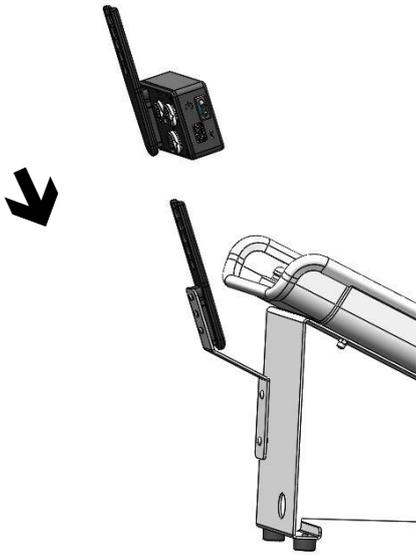

Figure 10
3. Remove the **Thermia Pro** Console out of the packaging and suspend in the console holder of the Heating Tray (see *Figure 10*). Connect the power supply to the back of the Console housing and insert the plug into the socket.